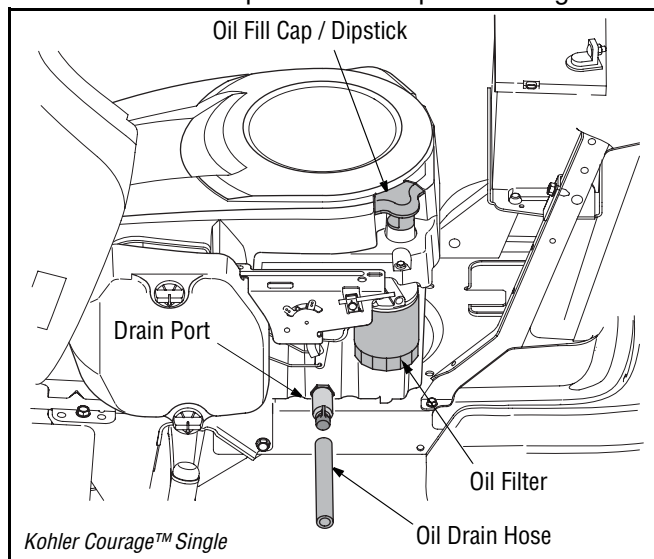

Figure 11
- Pop open the protective cap on the end of the oil drain valve to expose the drain port. See Figure 11.
- Install the replacement air cleaner element with the pleated side *out* and seat the rubber seal onto the edges of the air cleaner base. See Figure 11